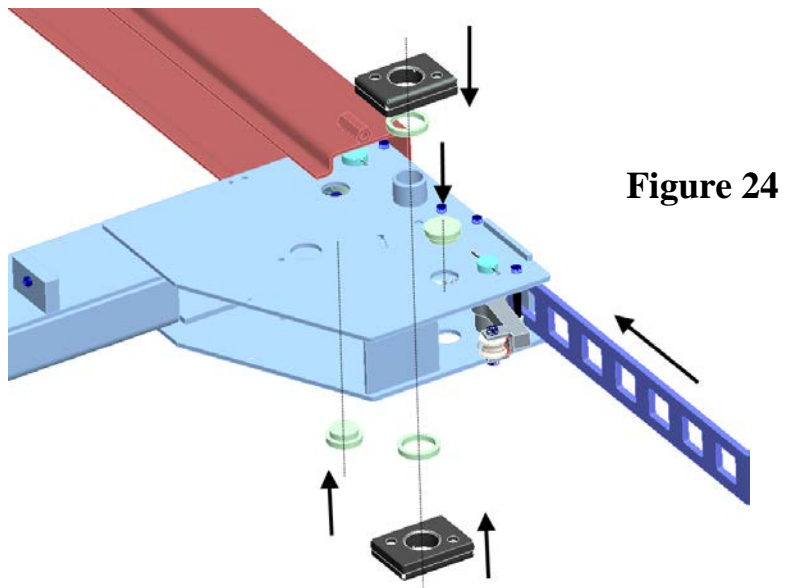

Figure 24
- Assemble slider spacers and sliders into the rear cross-member (**Fig.24**).